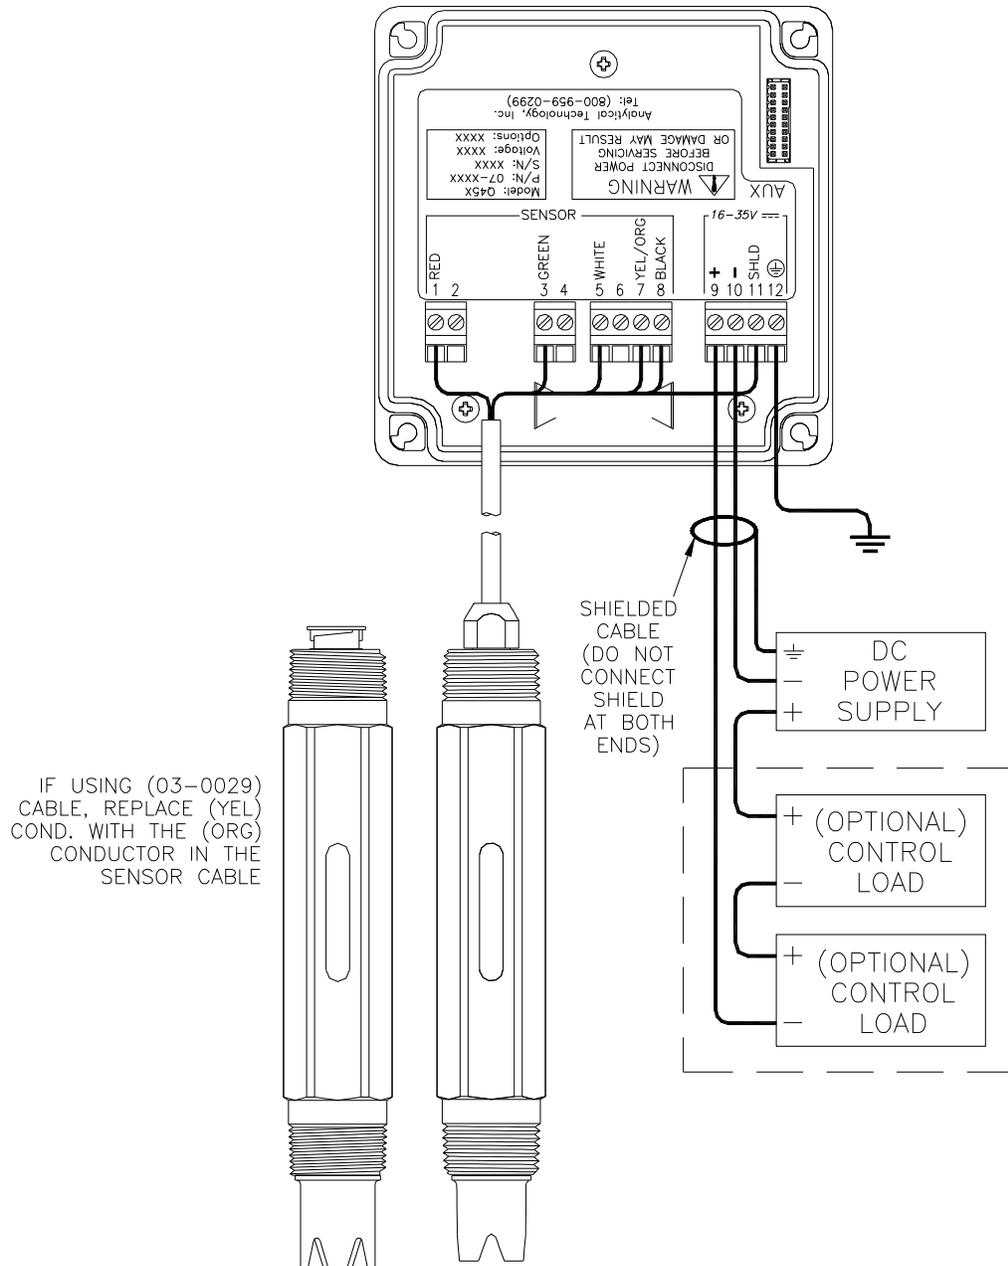

Figure 17 - Loop Power Wiring Diagram
1. Use wiring practices that conform to all national, state and local electrical codes. For proper safety as well as stable measuring performance, it is important that the earth ground connection be made to a solid ground point from terminal 12 (Figure 17 - Loop Power Wiring Diagram 7).
In the two-wire configuration, a separate DC power supply must be used to power the instrument. The exact connection of this power supply is dependent on the control system into which the instrument will connect. See Figure 17 - Loop Power Wiring Diagram